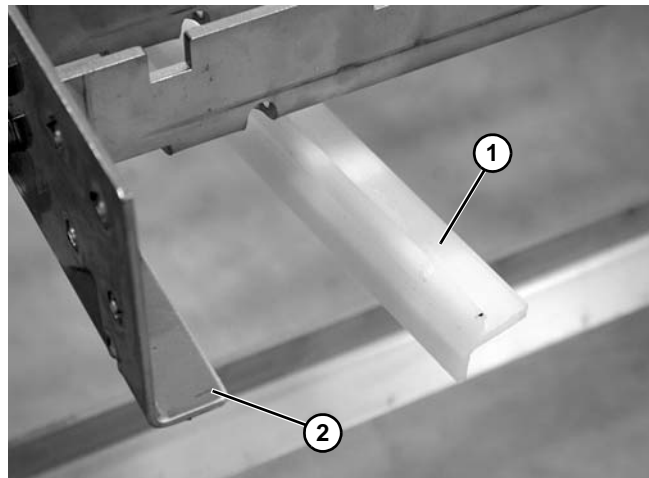

Figure 49
2. Remove the bottom wear strip (**Figure 49, item 1**) from the frame rail (**Figure 49, item 2**).